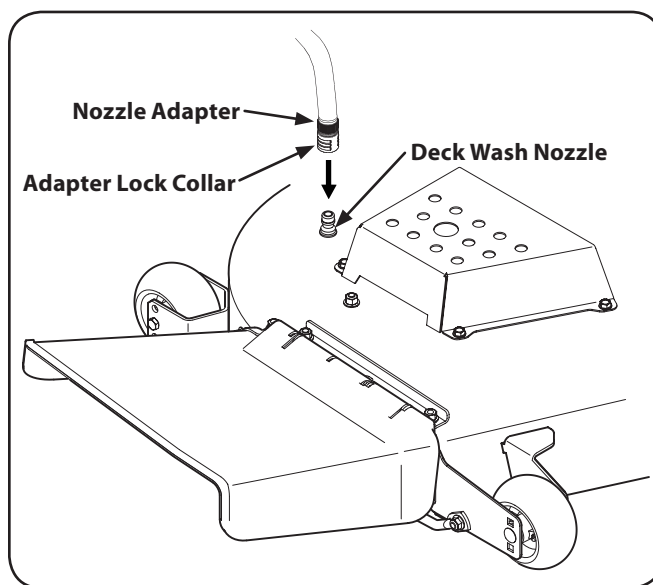

Figure 6-4
3. Attach the hose coupler to the water port on your decks surface. See Fig. 6-4.